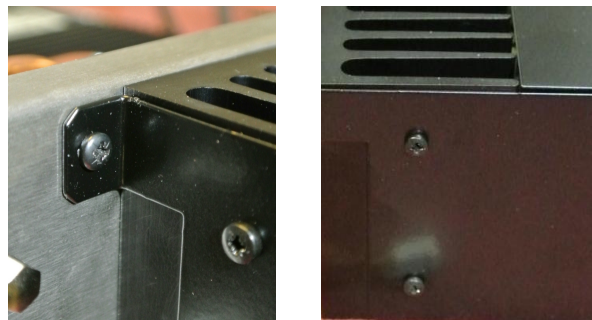

Figure 15. Removal of Fan Assembly.
3. On the rear panel, remove the two M3 x 6 mm screws (one each side) that secure the Fan chassis to the rear panel (see **Figure 15** below).